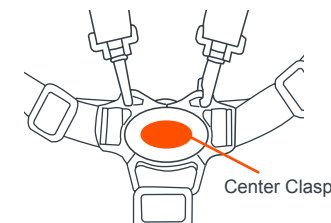

Fig. 14a
14) • To release, push Button on Center Clasp, the two Harness Buckles will pop free (Fig. 14a).